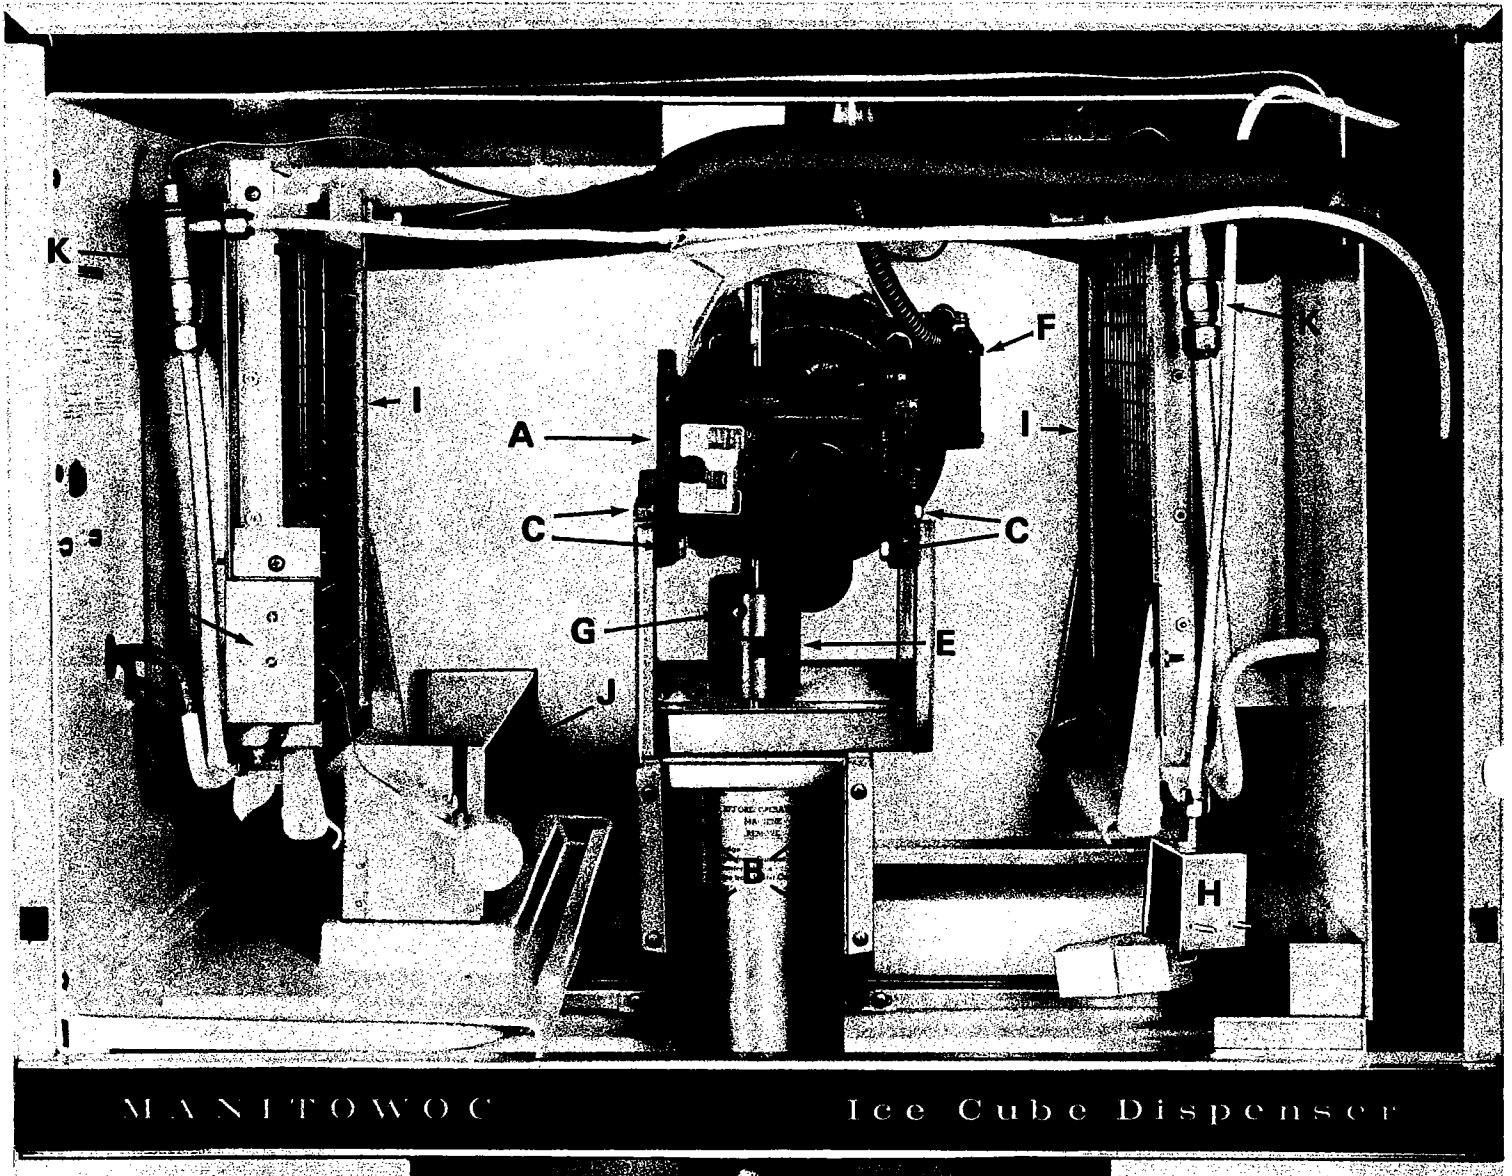

FIG. 6
2. Remove the four ice chute extension screws marked "B" in Fig. 6 and remove chute extension.
3. Remove the two bolts marked "D" and the four bolts marked "C" in Fig. 6.
5. Remove the two bolts on each side of the auger chute (Fig. 6).